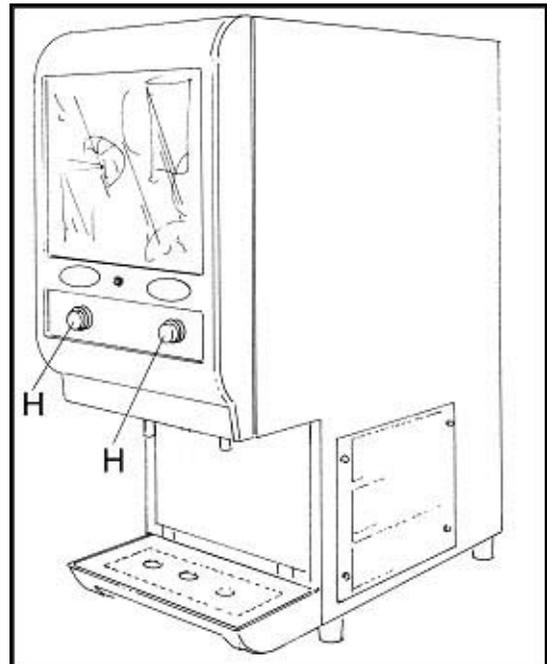

FIGURE 11
2. Press and hold the dispense button (H) for 90 seconds and stop, see FIGURE 11. Allow the sanitizing solution to remain in the dispenser for 5 minutes. After 5 minutes, dispense the remaining solution.